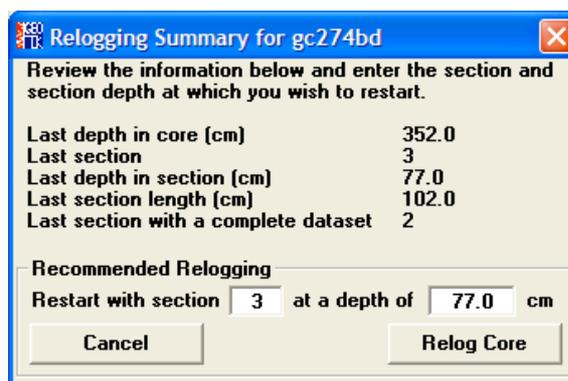

Figure 3-18. Re-log core panel.
- III. The user should decide at what point (at the reference position) he/she wishes to relog the core and enter the values in the boxes **[Restart with section]** and **[at a depth of]** and click **[Re-log Core]** when ready (see Figure 3-18). All data below this point will be deleted.
- IV. The user will be asked to reset the reference position and zero the vertical (Z) motor if necessary before being asked to place the appropriate core section on the track.